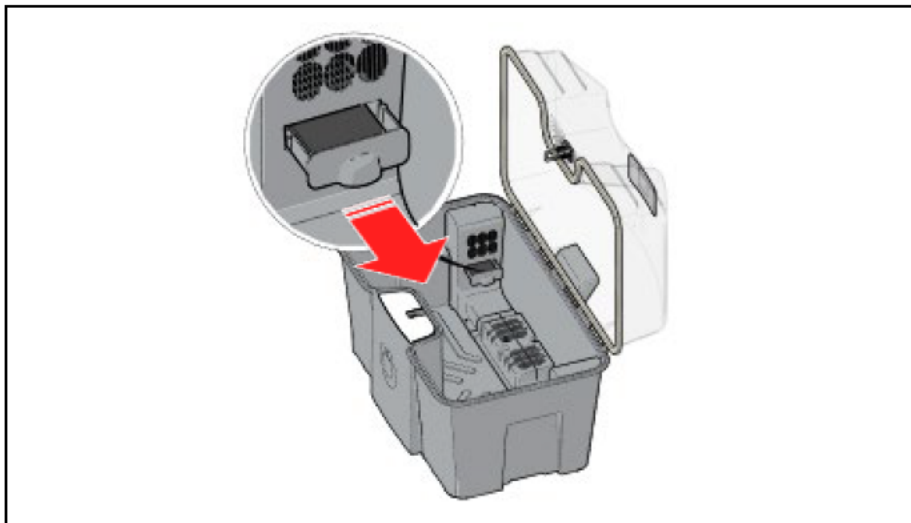

Figure 18 Filter drawer removal
1. Open the NUTROZ lid and remove the drawer holding the filter (Figure 18).